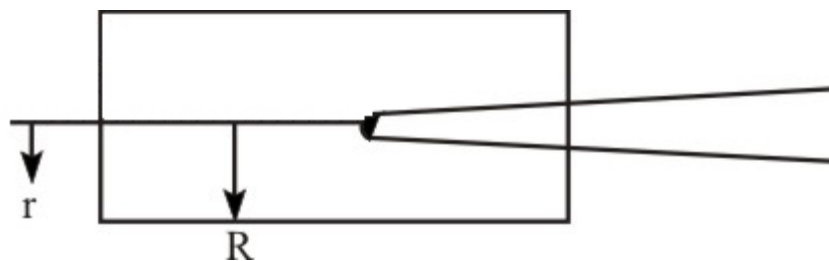

Figure 2.27: Shielded Thermocouple.
**Example:** When temperature in a hostile environment must be measured it is common to provide a metal shield to the thermocouple as shown in Figure 2.27.